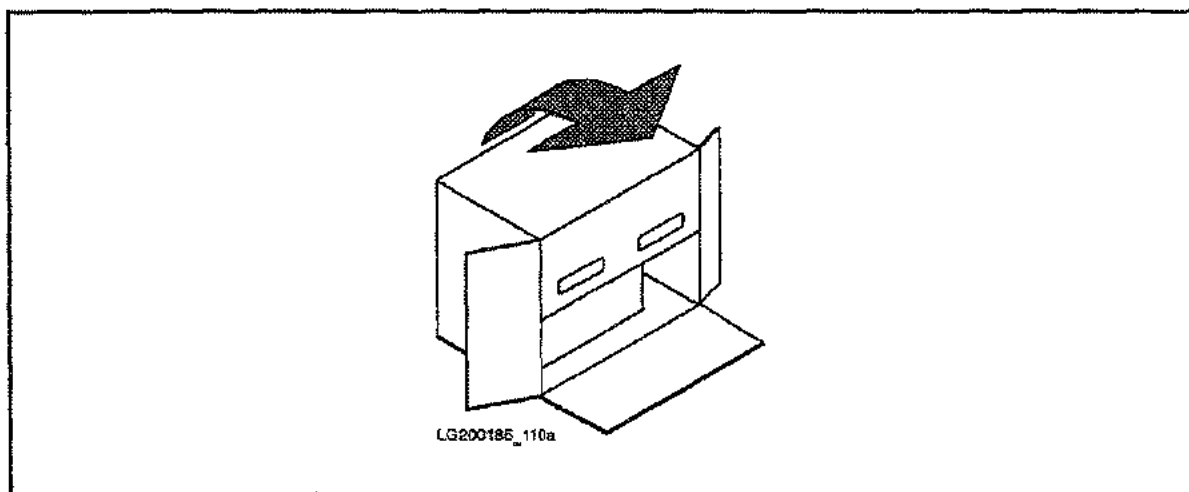

Figure 3-2. Positioning the Shipping Box
3. Position yourself so that you must reach across the box to grasp the handles. See Figure 3-2.
4. Grasp the handles and carefully pull the shipping box toward yourself until the shipping box rests on its side, with the handles on top. This positions the computer in an upright position, resting on its feet. See Figure 3-2.